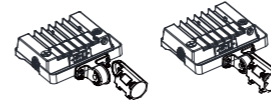

figure 8.3
Step 3: Run the core wire through the mounting head of the AM bracket and tighten socket hex screw.(figure 8.3)